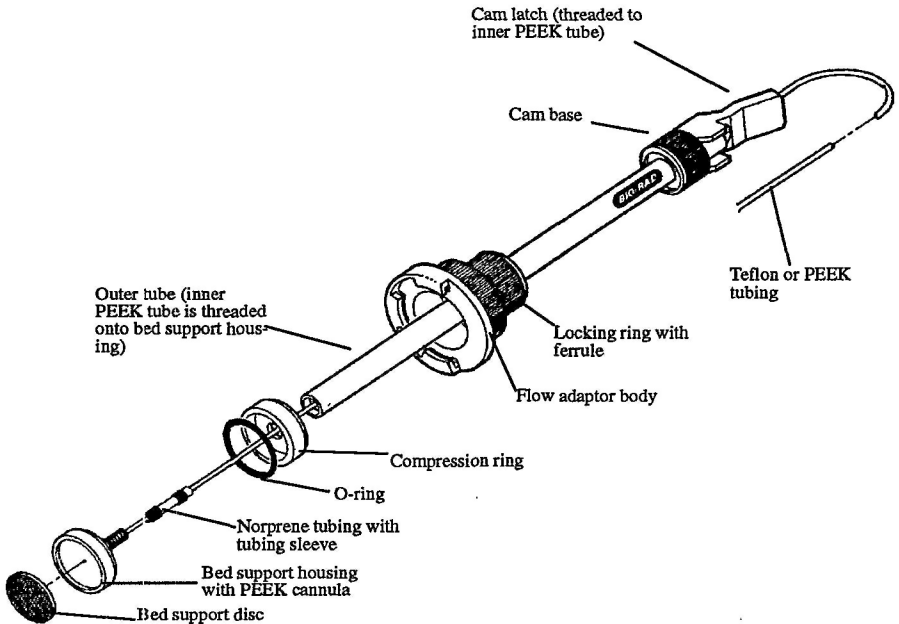

Fig. 5. Assembly with PTFE or PEEK tubing.
2. Push the tubing collars over the tubing sleeve (Figure 5).